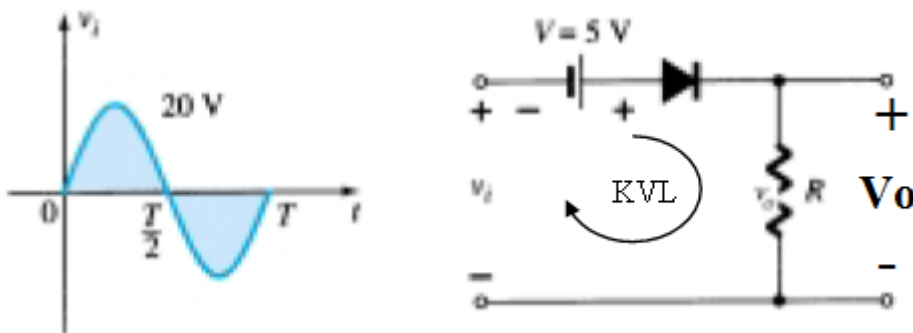

Figure 2.22: The circuit of Example1.
**Example 1:** Determine the output waveform for the circuit of Figure 2.22.